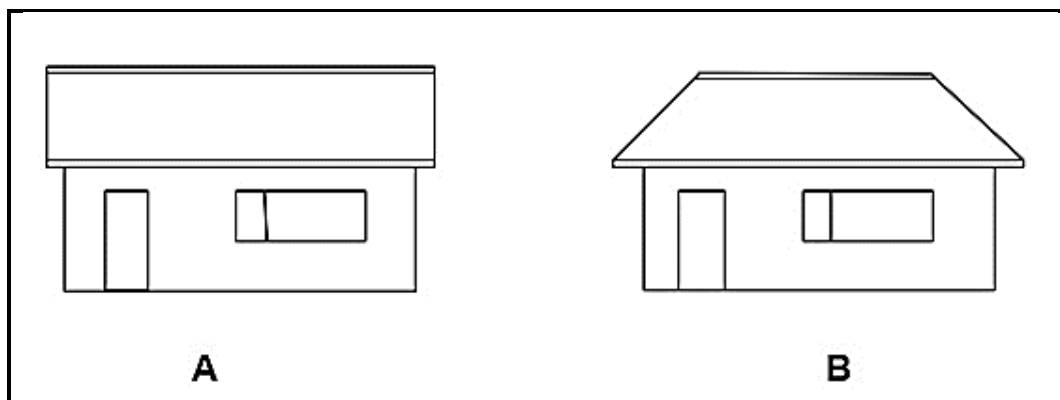

FIGURE 4.2
- 4.2 FIGURE 4.2 below shows roof profiles for building **A** and building **B**. Study the sketches and answer the questions that follow.